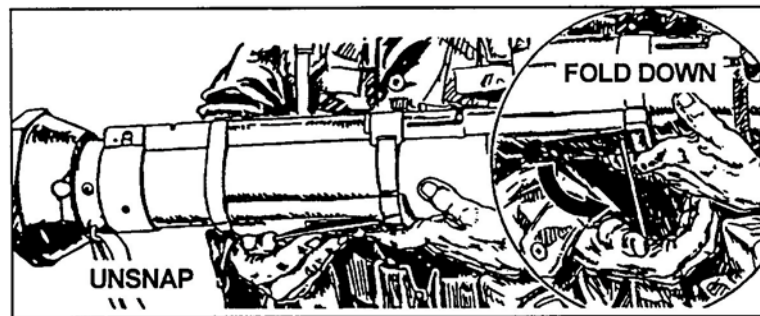

Figure 4. Unsnapping the shoulder strap.
- c. Unsnap and unfold the shoulder stop (Figure 4).